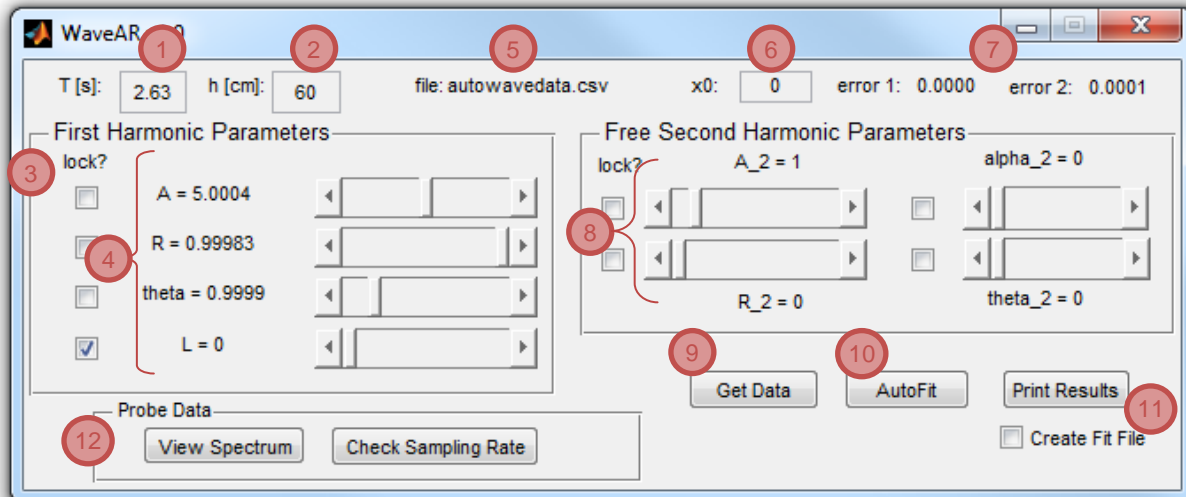

Figure 10. The main *WaveAR* GUI.
- 5) Once the fit is fairly close, press the “AutoFit” button to optimize the fit, least squares error for each harmonic corresponding to the fit will update (see Figure 10, column 7). The theta sliders may need to be readjusted if they are positioned at 0 or 2π .